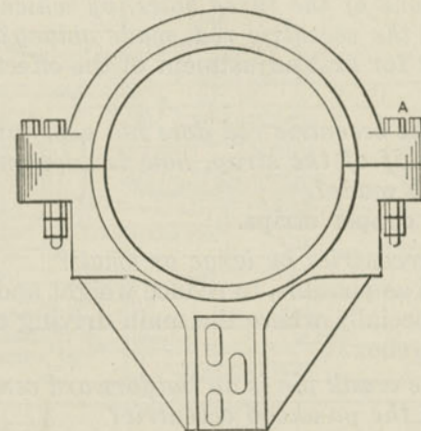

Fig. 191. Eccentric Straps.
*A. By making the lugs or ears larger and putting in an extra screw bolt as at A, Fig. 191.*